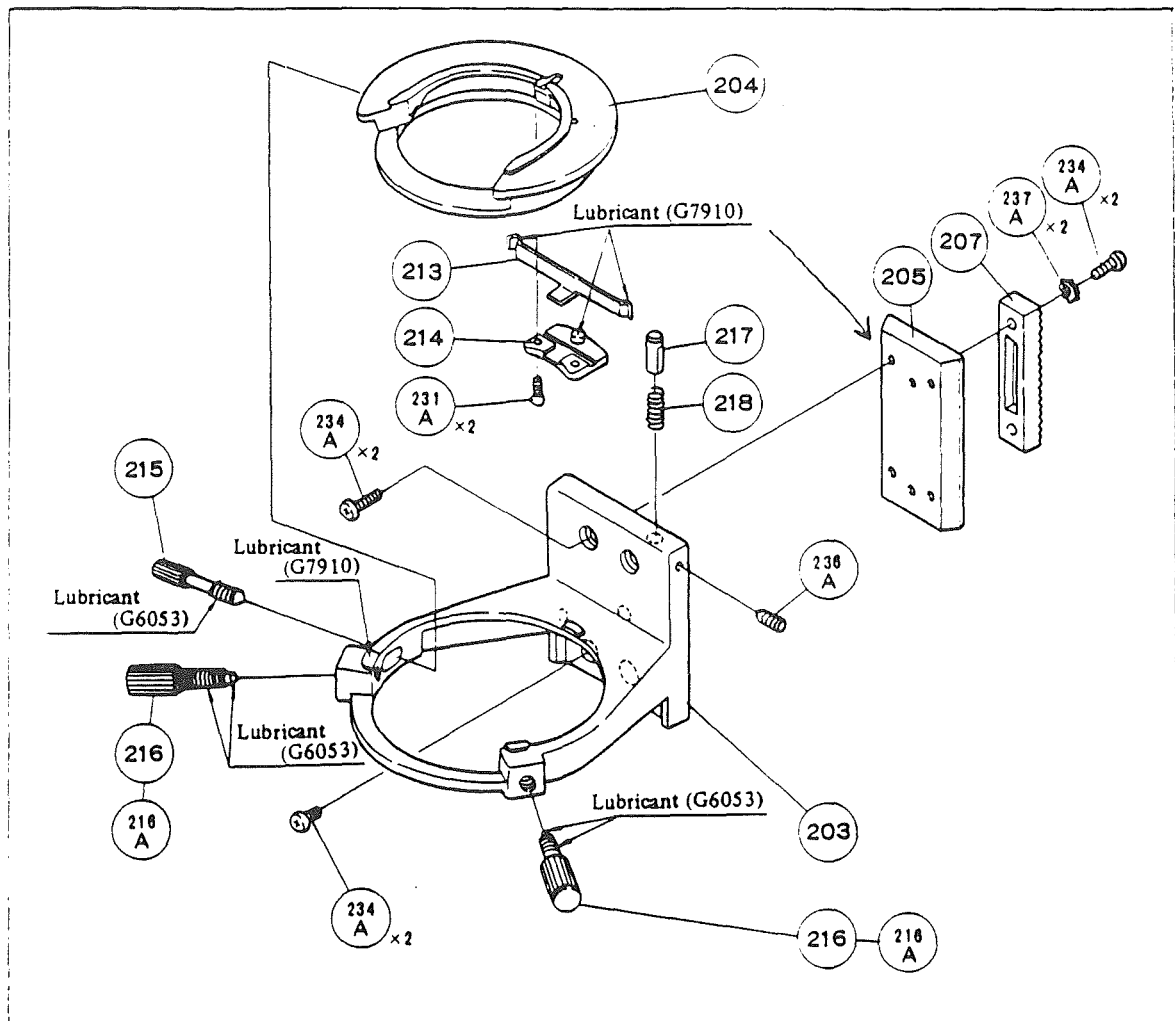
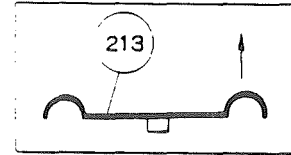

Fig. 27
Fig. 39
- 6) If stopper pin 217 has once been separated, because the top end is liable to be damaged, use the new one, which will facilitate reassembling with high accuracy. (Fig. 27).
- 6) To attach the condenser mount follow the procedure as below (Fig. 27):
- Attach spring retainer (214) to condenser receptacle (204) with screws (231A) x2.
- Insert plate spring (213) between (204) and (214). Bend the spring as shown by the arrow in Fig. 39.
- Apply G7910 to the sliding surface of condenser centering mount (203), and condenser receptacle (204).
- Insert (204) into (203).
- Screw condenser clamp screw (215) into (204) through the opening of (203).
- See that no seizure occurs between (203) and (215), when manipulating right and left condenser centering screws (216) to bring (204) to the center, and (215) operates smoothly.